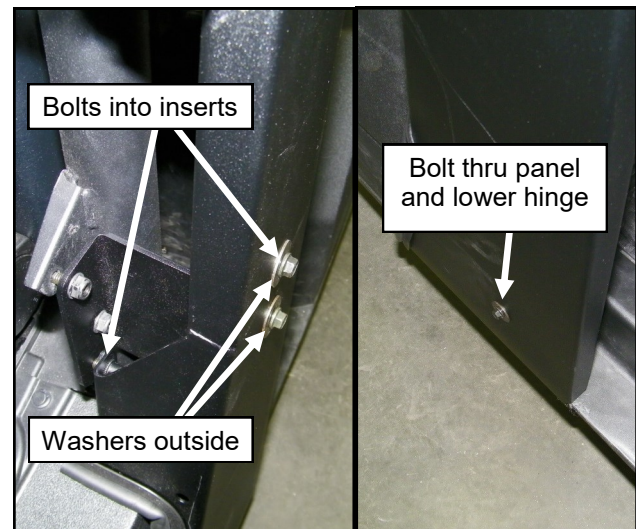

Fig. 5.2 B-pillar panel
5.2 Per figure 5.2, place the left B-pillar panel against the center vertical tube of the ROPS and align the holes in the panel to the threaded inserts of the B-pillar bracket. Insert (3) 1/4-20 bolts with washers on the outer bolts into the threaded inserts and leave loose. Place one 1/4-20 bolt with washer through the hole in the lower B-pillar and through the lower rear hinge and secure with a nut inside, leave loose. Repeat for the right side.